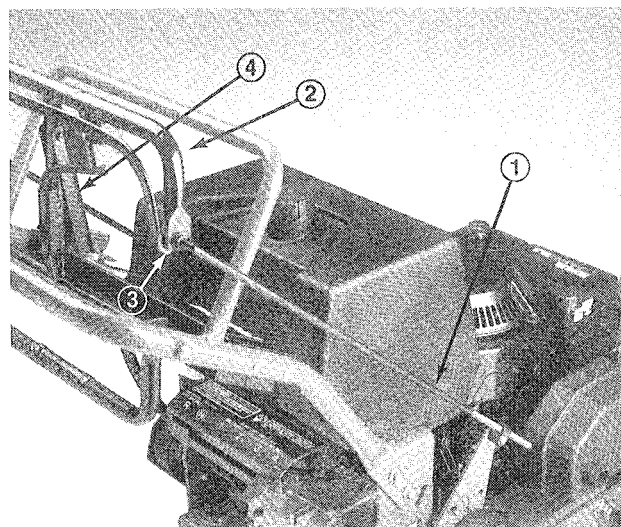

Figure 8
3. Check gap between control bar and upper handle when fully engaging wheel belts. Gap should be approximately 1 to 1-1/4" (Fig. 8).
5. Brake rods should be adjusted so parking brake lever can be swung into a snug position against the upper handle while pulling back on upper control bar (Fig. 8).